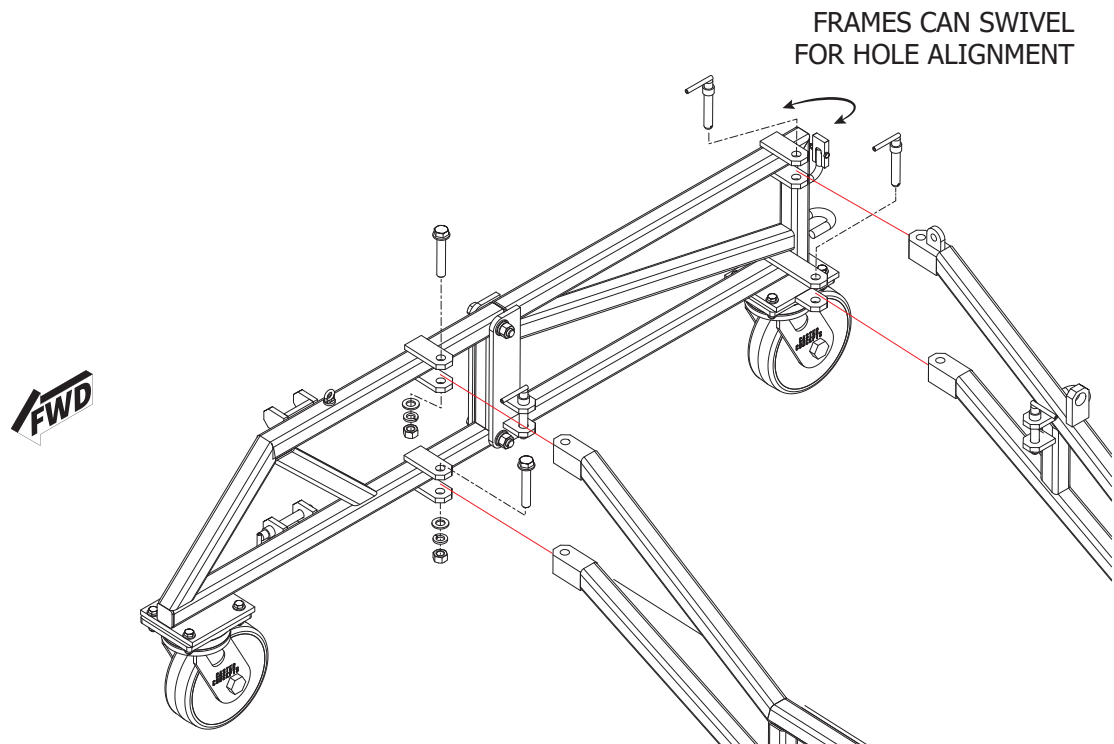

Figure 5.1-4 FWD & AFT Frame Assembly
- 4) Attach the FWD frame assembly to the left and right frame assemblies using bolts provided. See Figure 5.1-4.
- 5) Attach the AFT frame assembly to the left and right frame assemblies using the safety pins. Left and right frame halves may be swiveled to aid in hole alignment. See Figure 5.1-4.